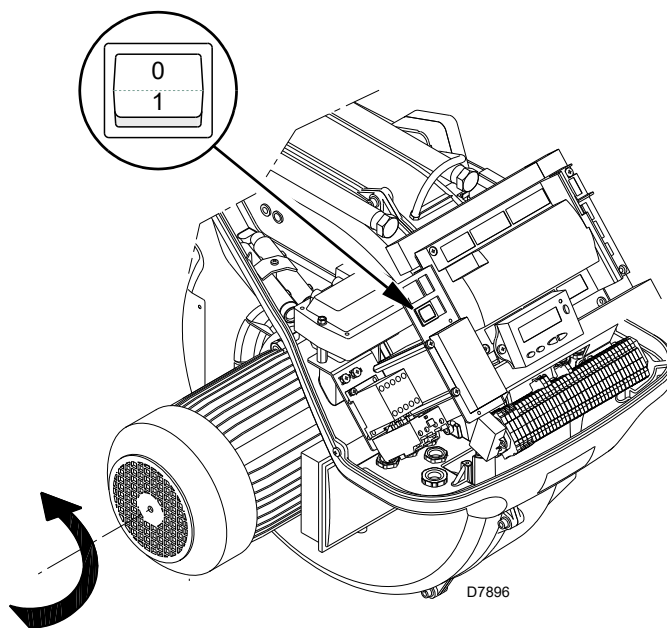

Fig. 30
Close the thermostats/pressure switches and turn the switch of Fig. 30 to position "1".
As soon as the burner starts up, go in front of the cooling fan of the fan motor and check it is rotating anticlockwise. See Fig. 30.
- place the switch of Fig. 30 in position "0" and wait for the control box to carry out the switch-off phase;
The burner is in the heat request waiting mode, or the selector “0-1” (Fig. 30 at page 32) is in the “0” position.